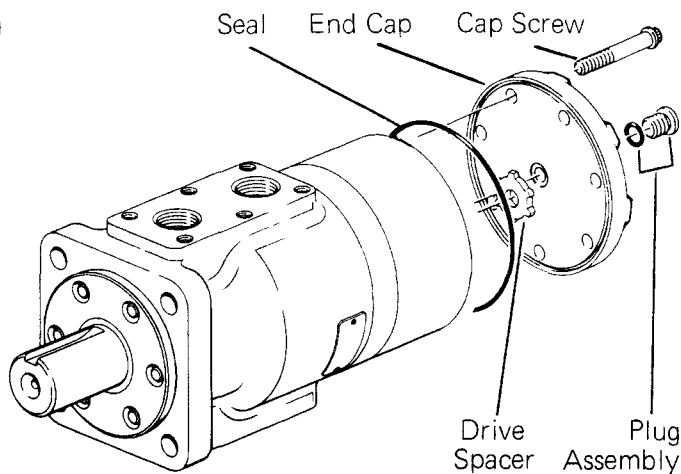

Figure 21
**46** Install drive spacer (not used on 6.0 cu. in. displacement motors, see Fig. 21).